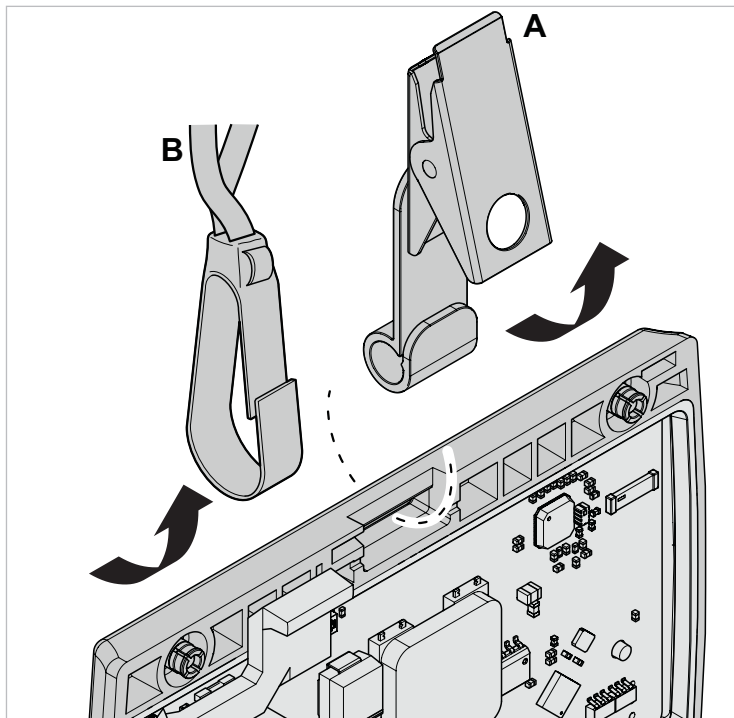
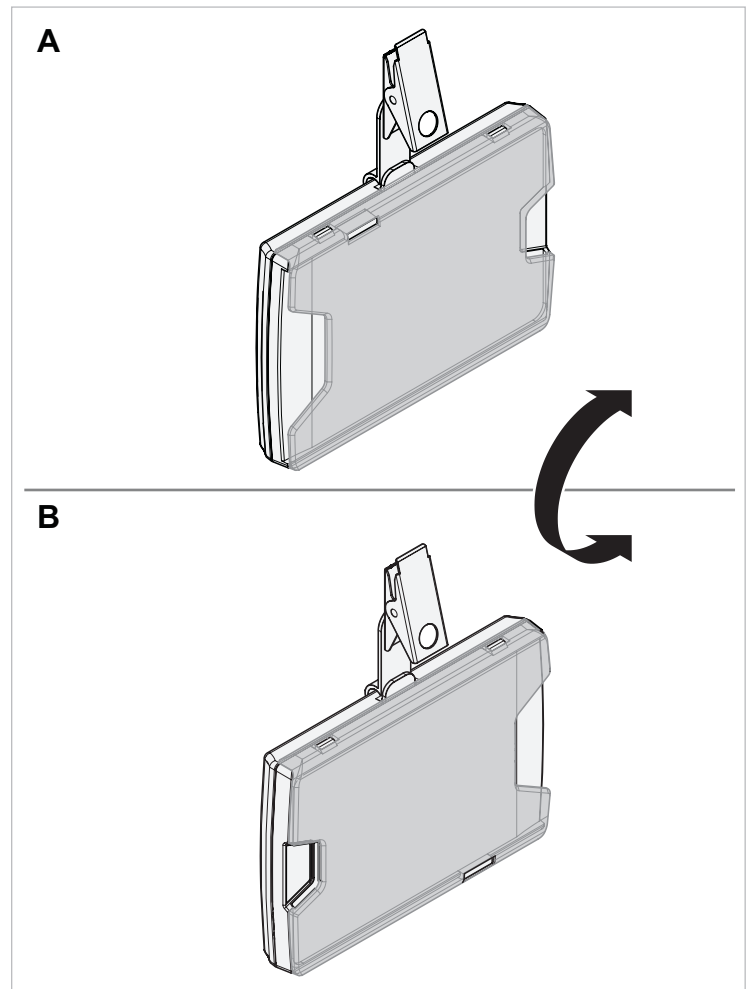

Fig. 11 Mounting the badge attachment
Fig. 12 Mounting of the attachment for right-handed person/ left-handed person
3. Place the selected attachment in the slot on the edge of the badge (Fig. 11), adapted for right- and left-handed people (Fig. 12).
- ▶ For a right-handed person (A, Fig. 12): Mount the attachment on the upper edge of the badge (next to the LED).
- ▶ For a left-handed person (B, Fig. 12): Attach to the lower edge of the badge. To do this, turn the badge over.